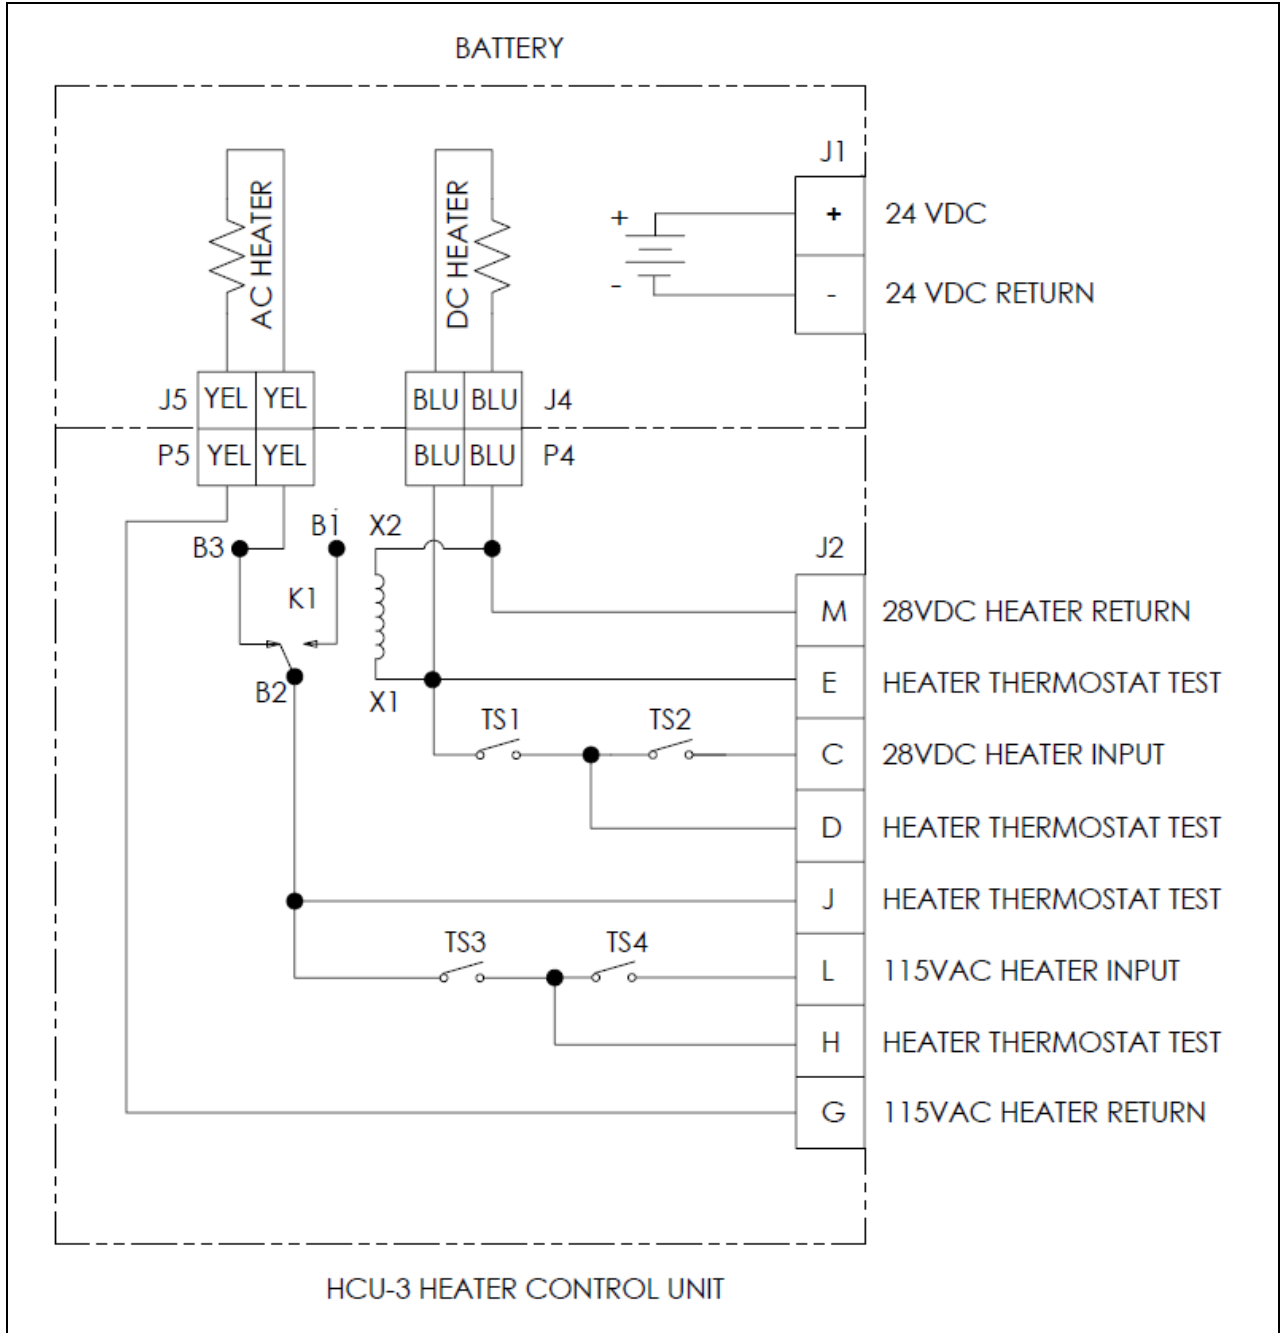

Figure 1. Schematic Diagram for HCU-3
- Refer to Figure 1 for electrical schematic of HCU and Table 1 for a list of test equipment.